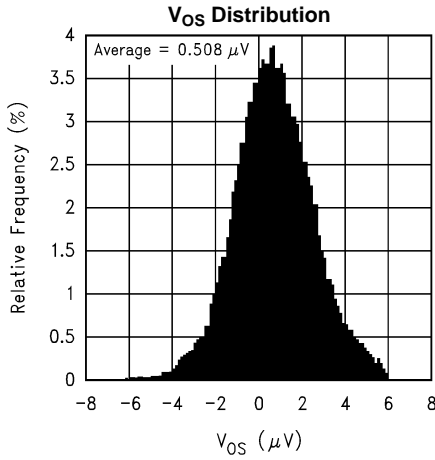

Figure 4.
- (1) Typical values represent the most likely parametric norm.
- (2) All limits are specified by testing or statistical analysis, unless otherwise noted.
- (3) The limits are set by the accuracy of high speed automatic test equipment. For the typical V_{OS} distribution, see the curve (Figure 4).
- (4) Precision bench measurement of more than 300 units. More than 65% of units had less than 15nV/°C V_{OS} drift.
- (5) Ensured Vos Drift is based on 280 devices operated for 1000 hrs at 150°C (equivalent to 30 years @ 55°C).
- (6) Specified by design only.